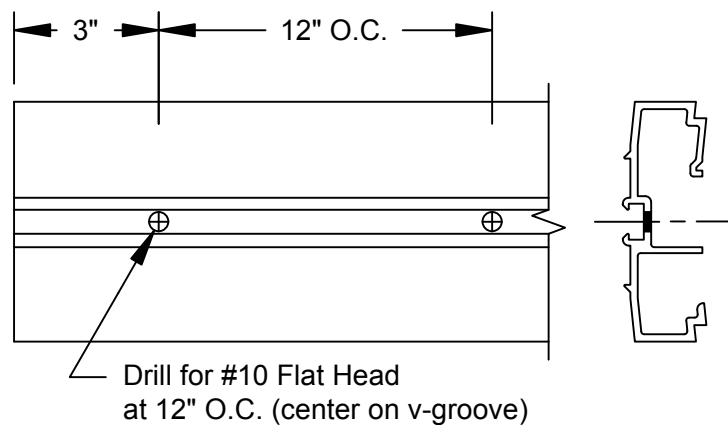

**FIGURE 4**
- 1.5 Drill (1) 5/16" dia. weep hole at the bottom of each horizontal face cover at the centerline of the D.L.O. SEE FIGURE 4, page 7. NOTE: For SSG applications, face covers typically run across SSG mullions, so there will be multiple holes in each horizontal face cover. Maximum length of horizontal face covers at SSG applications should be 20 feet.